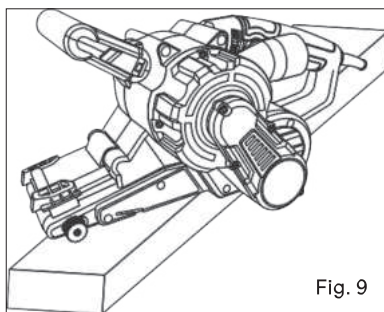

Fig. 9
1. Sand rough wood surfaces or remove paint by sanding across the grain at 45° in both directions (Fig. 9).